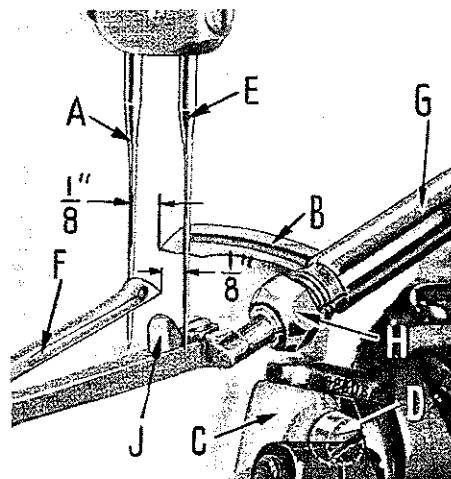
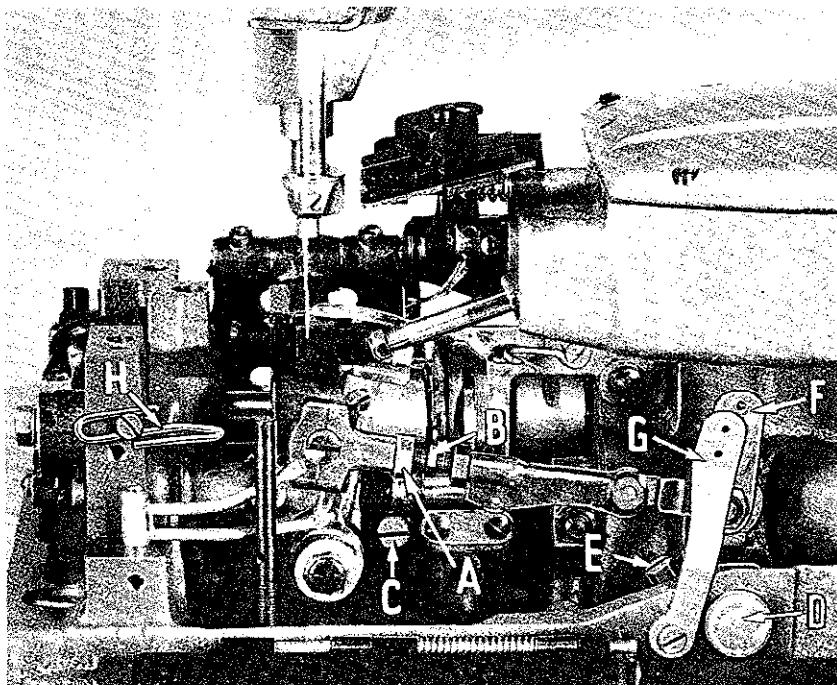

Fig. 3
Fig. 4
Insert the rear needle (A, Fig. 3), Type 108 GS, size as specified and insert the 401 stitch looper (B) in the looper rocker (C), and tighten screw (D). Rotate hand-wheel in operating direction until back looper is in the extreme right position. The looper should be set so that its point is $1/8$ inch from the center of the back needle, as in Fig. 3. Looper gauge No. 21225-1/8 can be used advantageously in making this adjustment. If adjustment is needed, loosen nut (A, Fig. 4) (it has a left hand thread) and also loosen nut on right end of connecting rod (B), turn connecting rod forward or backward to obtain $1/8$ inch, and retighten both nuts.
Insert the front needle (E, Fig. 3) and also insert the 503 stitchlooper (F) in the lower looper bar (G), and tighten nut (H). Rotate handwheel in operating direction until front looper is in the extreme left position. The looper should be set so that its point is $\frac{1}{8}$ inch from the center of the front needle, as in Fig. 3.
With the back looper (B, Fig. 3) in the looper rocker (C), turn the handwheel in the operating direction until the looper moves to the left and its point is even with left side of the needle (A). Note the height of the eye of the needle with respect to the looper point, then turn the handwheel in the reverse direction until the looper point again moves to the left and is even with the left side of the needle.
If the motions are synchronized, the height of the eye of the needle with respect to the looper point will be the same. A variation of .005 inch is allowable. If the distance from the eye of the needle to the point of the looper is longest when the pulley is turned in operating direction, move the looper drive lever shaft synchronizing stud (D, Fig. 4) to the rear. Moving it in opposite direction acts the reverse.
Moving of the looper drive lever shaft synchronizing stud is accomplished as follows: Loosen clamp screw (E, Fig. 4) of looper drive lever.
The 503 looper thread take-up (F, Fig. 4) should be positioned approximately on the center line of the looper drive lever as per Fig. 4. Eyelets (G, and H, Fig. 4) are positioned correctly when the lower looper thread is taut as the spreader reaches the left end of its travel.
To control the ratio of thread pulled during the leftward movement, use the thread take-up eyelet (G, Fig. 4).
Moving this eyelet to the left causes more looper thread to be drawn on the left hand stroke of the spreader, and moving it to the right causes less looper thread to be drawn. Moving this eyelet to the right or left also affects the drawing of the looper thread at the extreme left position. To readjust for this condition, move the eyelet (H, Fig. 4) to the right to reduce the thread drawn or to the left to reduce the amount of slack. The two eyelets (F and G) are to be adjusted in conjunction with each other so that the following conditions are met: (1) $\frac{1}{3}$ of the looper thread is drawn during the left stroke of spreader, and (2) No looper thread is drawn at the extreme end of stroke.